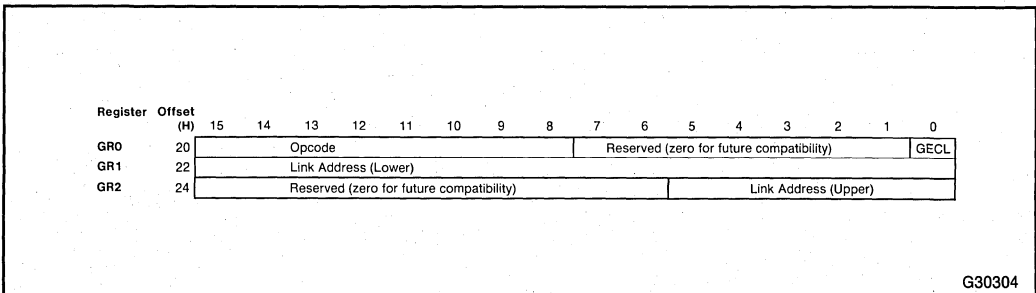

Figure 2-7. Opcode Register Used in Poll State
Poll State is the Graphics Processor (GP) default state after a RESET. The GP also can enter Poll State following command execution, an exception, a software abort signal, or if the GRCD bit in the Status Register (GSTAT) is set (see Section 2.2.1.1 “Graphics Processor Status Register (GSTAT)” for details). While in Poll State, the GP does not execute commands and is considered to be idle. However, the GP continuously monitors the GECL bit in the Opcode Register, shown in Figure 2-7.